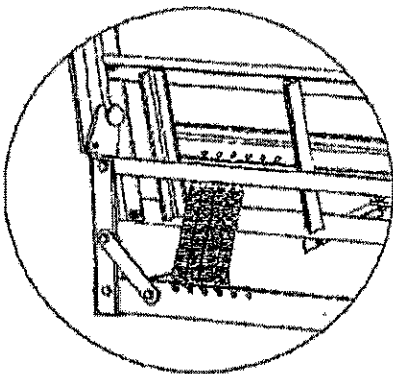

Figure 20. Close-up view showing spring placement and position.
4. Return the frame to the vertical position and attach the balance of the springs, starting from the outside holes and working toward the middle. Refer to Figure 20 showing spring placement and position.